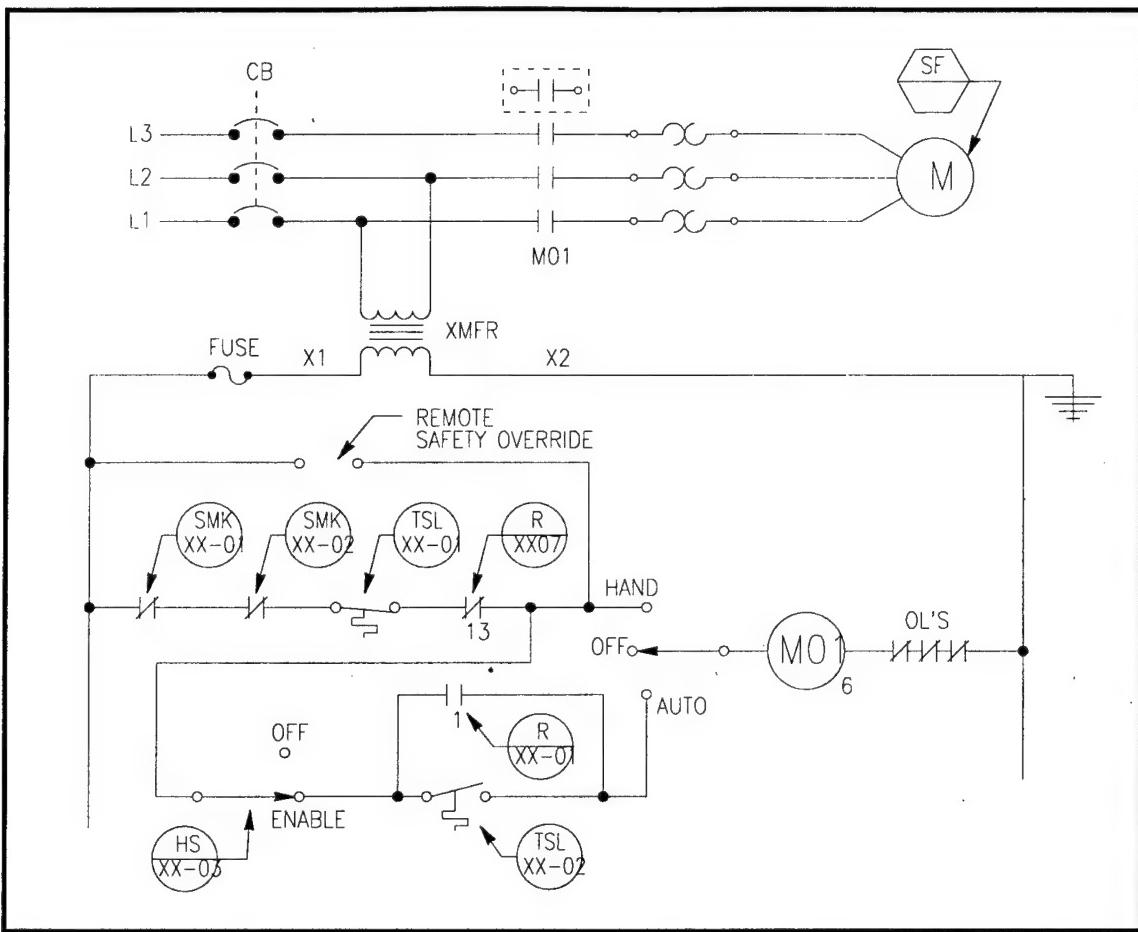

Figure 7. Typical ladder diagram for control system fan starter circuit.
The *Ladder Diagram* is used to show the operating sequence and control modes of the various control devices, safeties, and interlocks. The example ladder diagrams shown in Figures 6 and 7 are for a heating and ventilating control system. The ladder diagram in Figure 6 describes the control logic within the system control panel. The ladder diagram in Figure 7 shows the logic of the supply fan starter circuit. Ladder diagrams are read from top to bottom and left to right. Each line, or "rung" of the ladder diagram has a reference number. The first rung (labeled 0) provides power to the time clock (CLK). Note that the bubble for the clock has a bisecting line through it, which indicates that it is located in the control panel.
3. **Enable/Off.** When "enable" is pushed, the control system (hardware) has been enabled, or permitted, to energize the fan motor starter. When "Off" is pushed the fan cannot be started by the control system. In the Off position, the fan will start only in the HAND mode from the H-O-A switch. The Enable/Off switch is shown as hand switch (HS XX-03) on line 104 of the ladder diagram in Figure 7